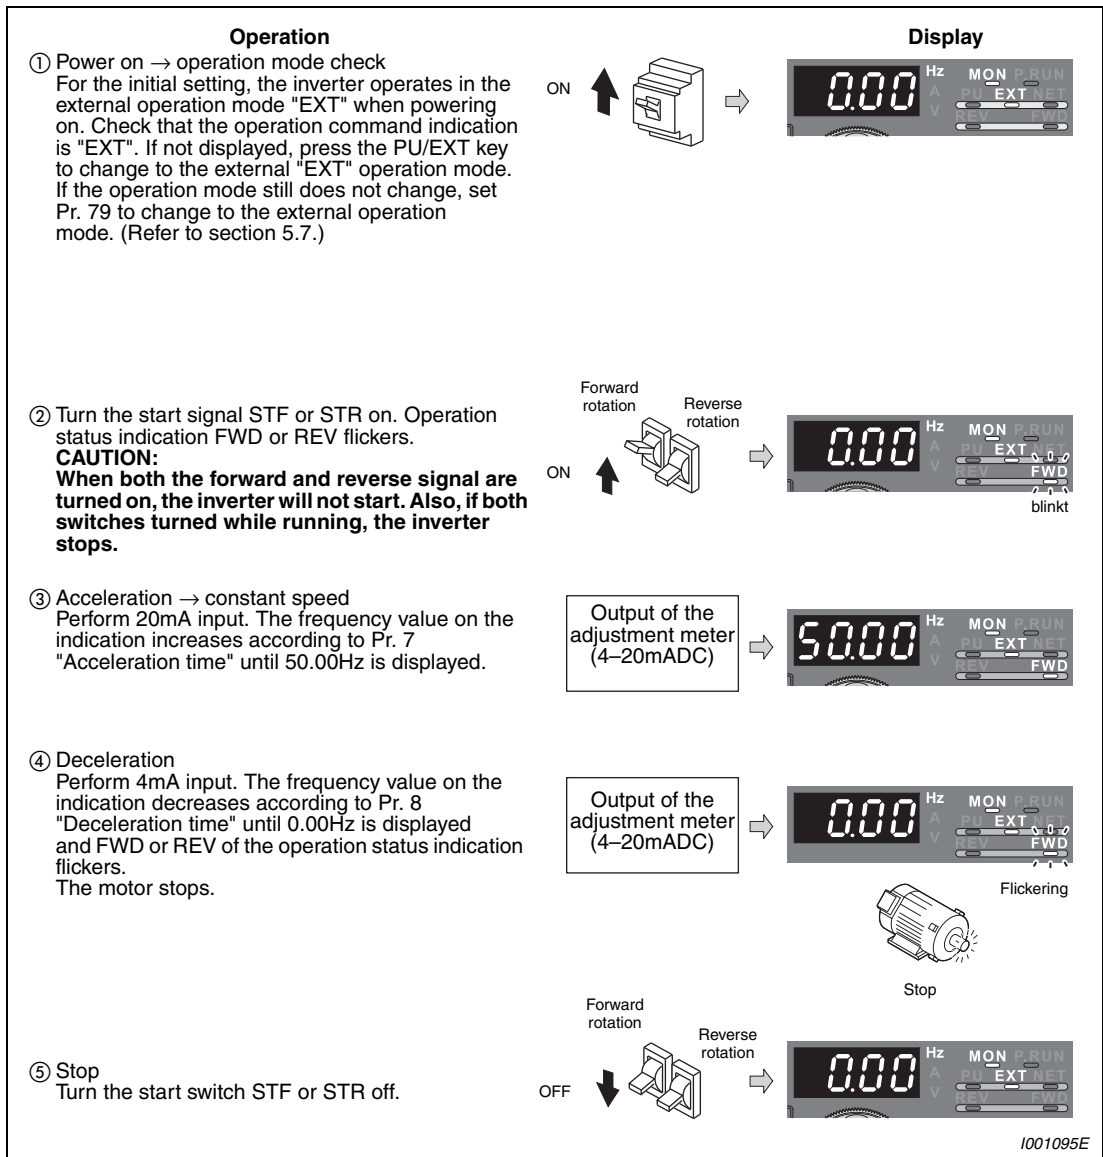

Fig. 4-28: Operate the inverter by using the analog current input
① Turn the digital dial until P.126 (Pr. 126) appears.	 →
② Press the SET key to show the currently set value. The initial value "50.00" (50.00Hz) appears.	 →
③ Turn the digital dial to change the set value to "40.00" (40.00Hz).	 →
④ Press the SET key to set.	 →
⑤ Press the MODE key twice to choose monitor/frequency monitor.	 →
⑥ Turn the start switch STF or STR on to allow 20mA current to flow. (Refer to Fig. 4-28, step ② to ⑤.)